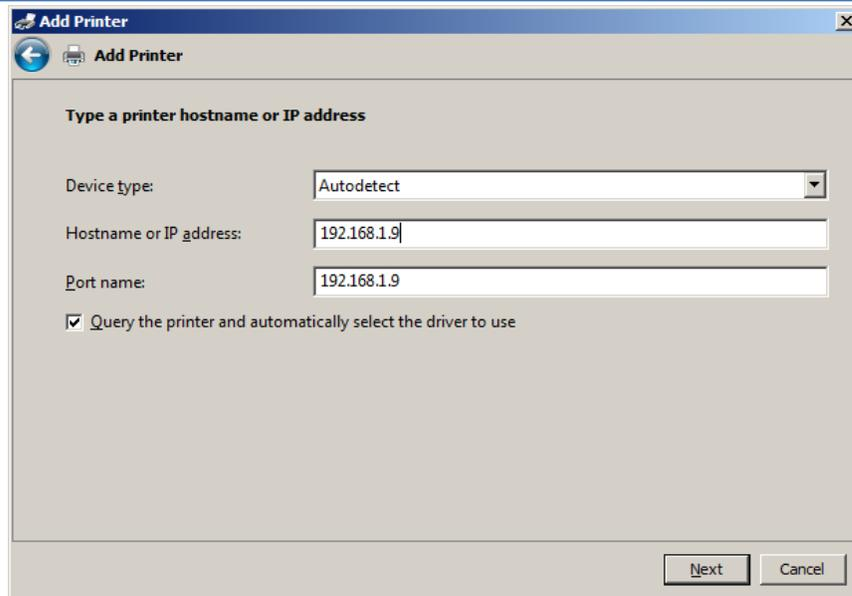

Figure 10-32 - Network Printer Configuration
- 11) On the next window for Device Type: **choose Autodetect**. For Hostname or IP address enter the Hostname or IP address. For Port name should automatically fill in as you enter the IP address as shown below in Figure 10-32.